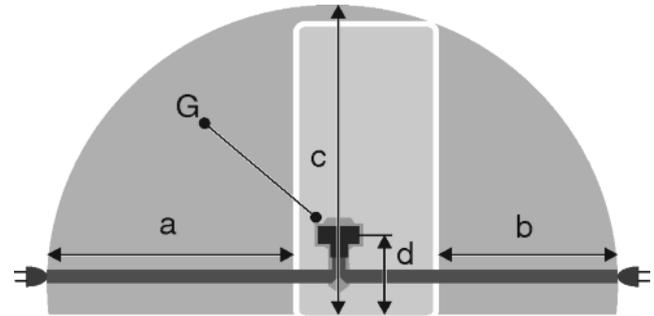

Fig. 19
- The socket is outside the back of the appliance area in the specified area *Fig. 19 (a, b, c)*.
- ▶ Insert the appliance plug *Fig. 19 (G)* into the back of the appliance. Ensure that it clicks into place.